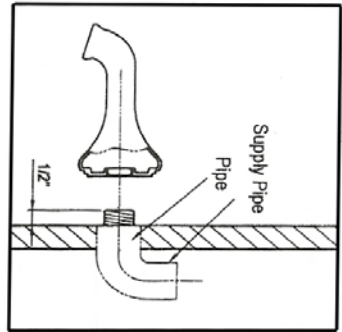

Figure 3:
Measure the length of pipe from the Valve body the tub/shower opening. Connect the pipe to the end thread of valve body. The length of the pipe connecting the spout and supply pipe will be different because of different model number. Please see **Figure 3:** Wrap Teflon tape on threads of pipe and thread the tub spout onto the wall.
5. Use adjustable wrench to tighten lock nut clockwise direction Figure 3: